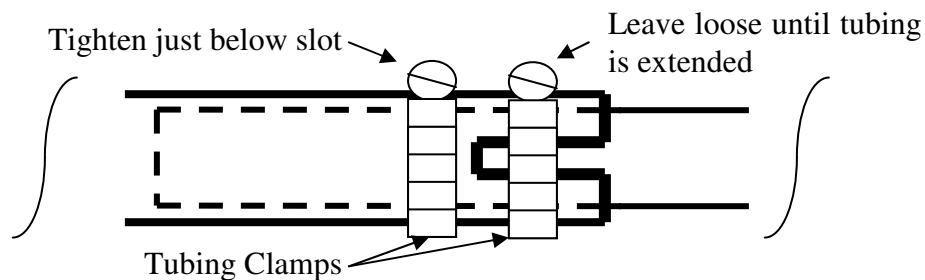

Figure 3: Tubing Clamp Positioning
- 2) Slide two tubing clamps over the 1.75", 1.625", 1.500", 1.325", 1.250", and 1.125" OD aluminum tubes. Use the appropriately-sized tubing clamps for the particular aluminum tubes. Securely tighten one clamp just below the slot cut in the tubes, but leave the second clamp loosely fitted over the tube slot. The tightened clamp will keep the tubes from falling into each other when the antenna is vertically placed prior to telescoping the individual sections. See Figure 3.